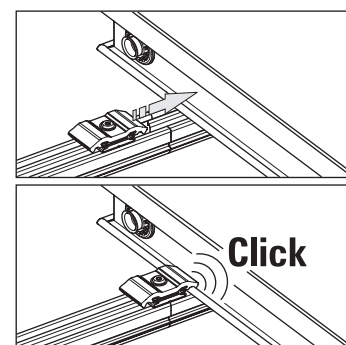

Fig. 3-22 Positioning of the double clamping block
3. Slide the double clamping blocks onto the last mounted flat solar panel until the clamping profile clicks into place into the solar panel profile (Fig 3-22).